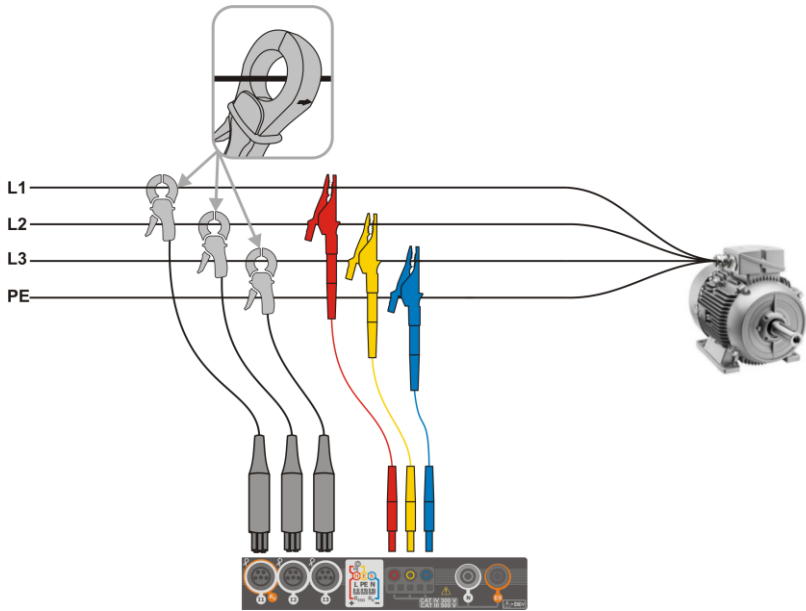

Fig. 5.7 Wiring diagram – 3-phase with three operating wires
- 3-phase 3-wire (Fig. 5.7 ,Fig. 5.8).